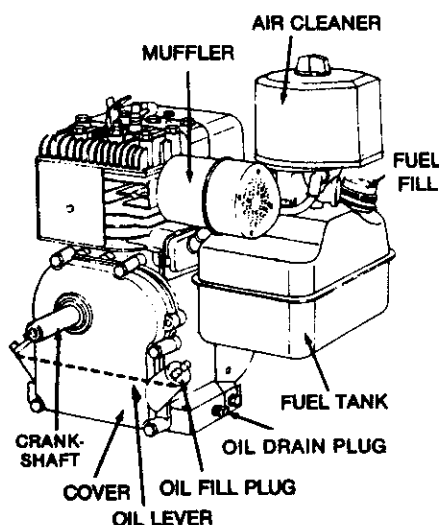

FIGURE 16
3. Remove oil drain plug. (Refer to Fig. 16).